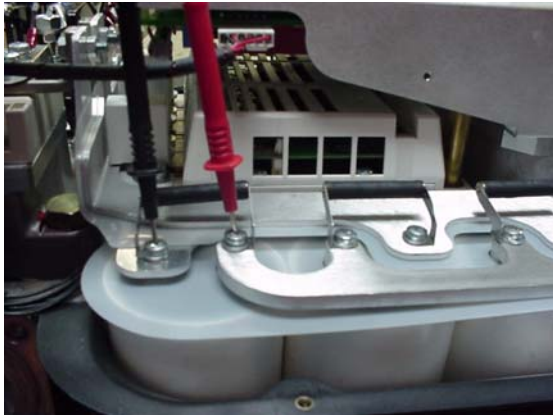

Figure 4-39 Capacitor (-) mid-point voltage measurement
5. Place the black (-) meter probe on the negative DC bus and the red (+) meter probe on the capacitor mid-connection bar. See Figure 4-39. The measured voltage range is expected to be half of the DC bus voltage. Refer to Table 4-10.